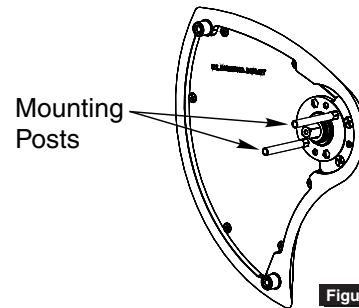

Figure 17
8. With lever in “up” position, align mounting posts on adapter plate with holes in lockbody and install outside trim assembly. (Figure 17)